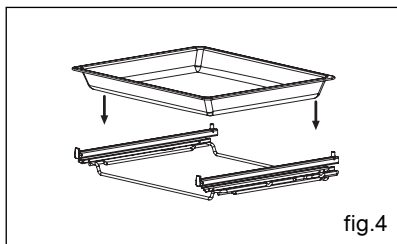

fig.4
- **Plat multi usages 20 mm (fig.4)**